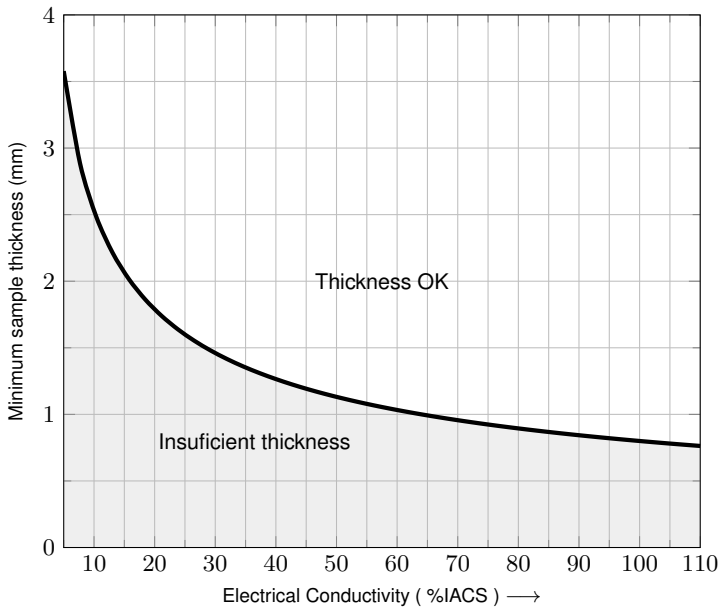

Figure 4: Minimum sample thickness versus conductivity @ 60kHz
The minimum thickness measurable by the 1210 and 1211 depends on the depth of penetration of the eddy currents and can be determined from Table 3 or Figure 4. Thinner materials can be measured by stacking several plates together provided there is no gap between them. Tightly packed sheet rolls can be measured as well. Precision will be slightly compromised.
1. The surfaces to be measured must be flat and larger than 10mm in diameter for probe mod. 1210 or 8mm in diameter for probe mod 1211. The thickness of the sample should be above the minimum recommended in Figure 4.